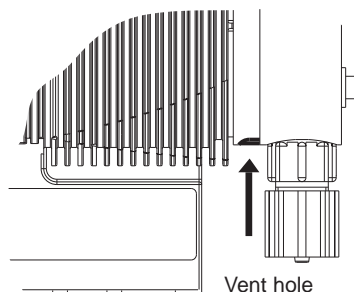

Fig. 24
- ▶ Check that the liquid end is generally watertight (especially vent hole! See fig. 24)